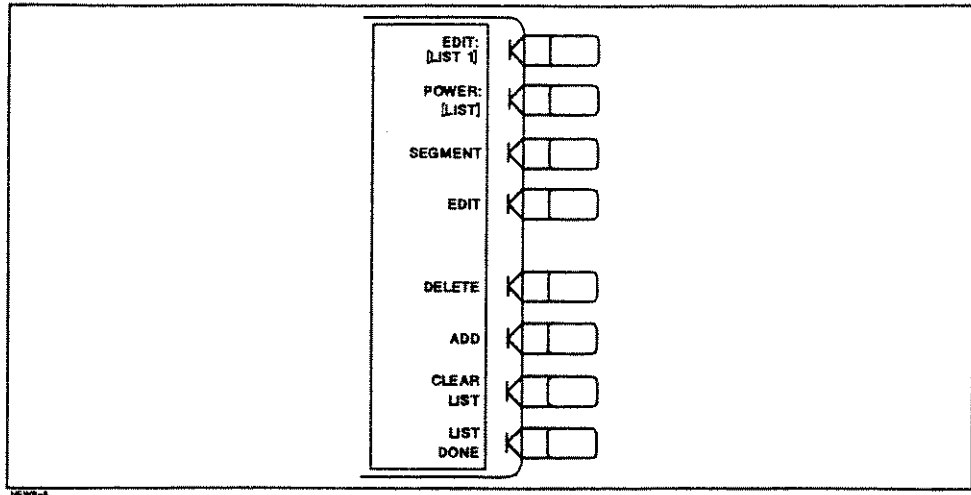

Figure 8-8. Edit List Menu
*Change Figure 8-8 to the following figure:*